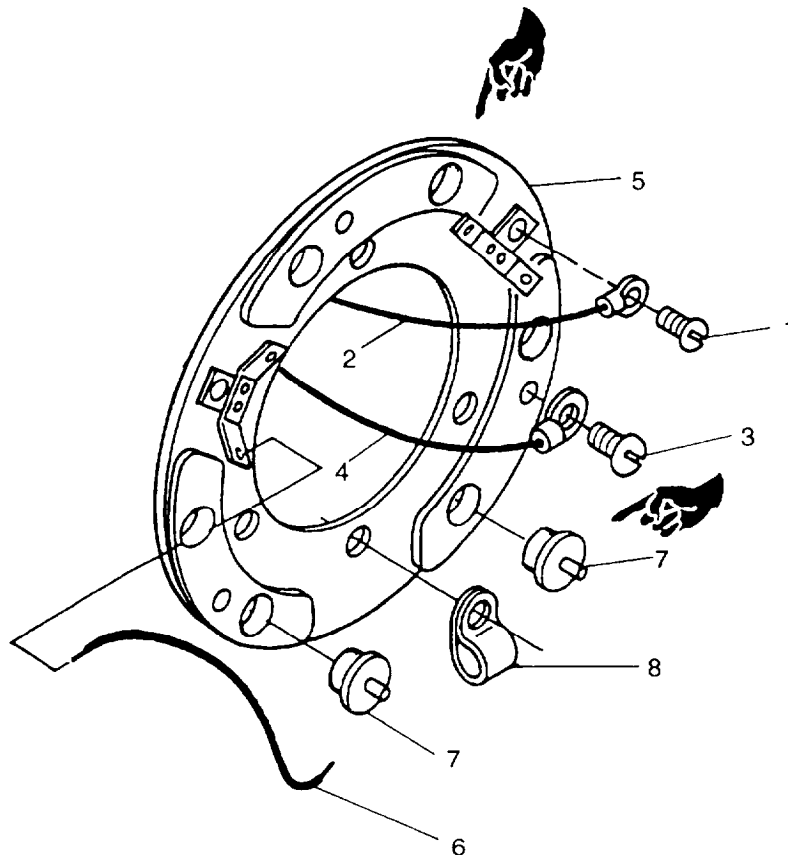
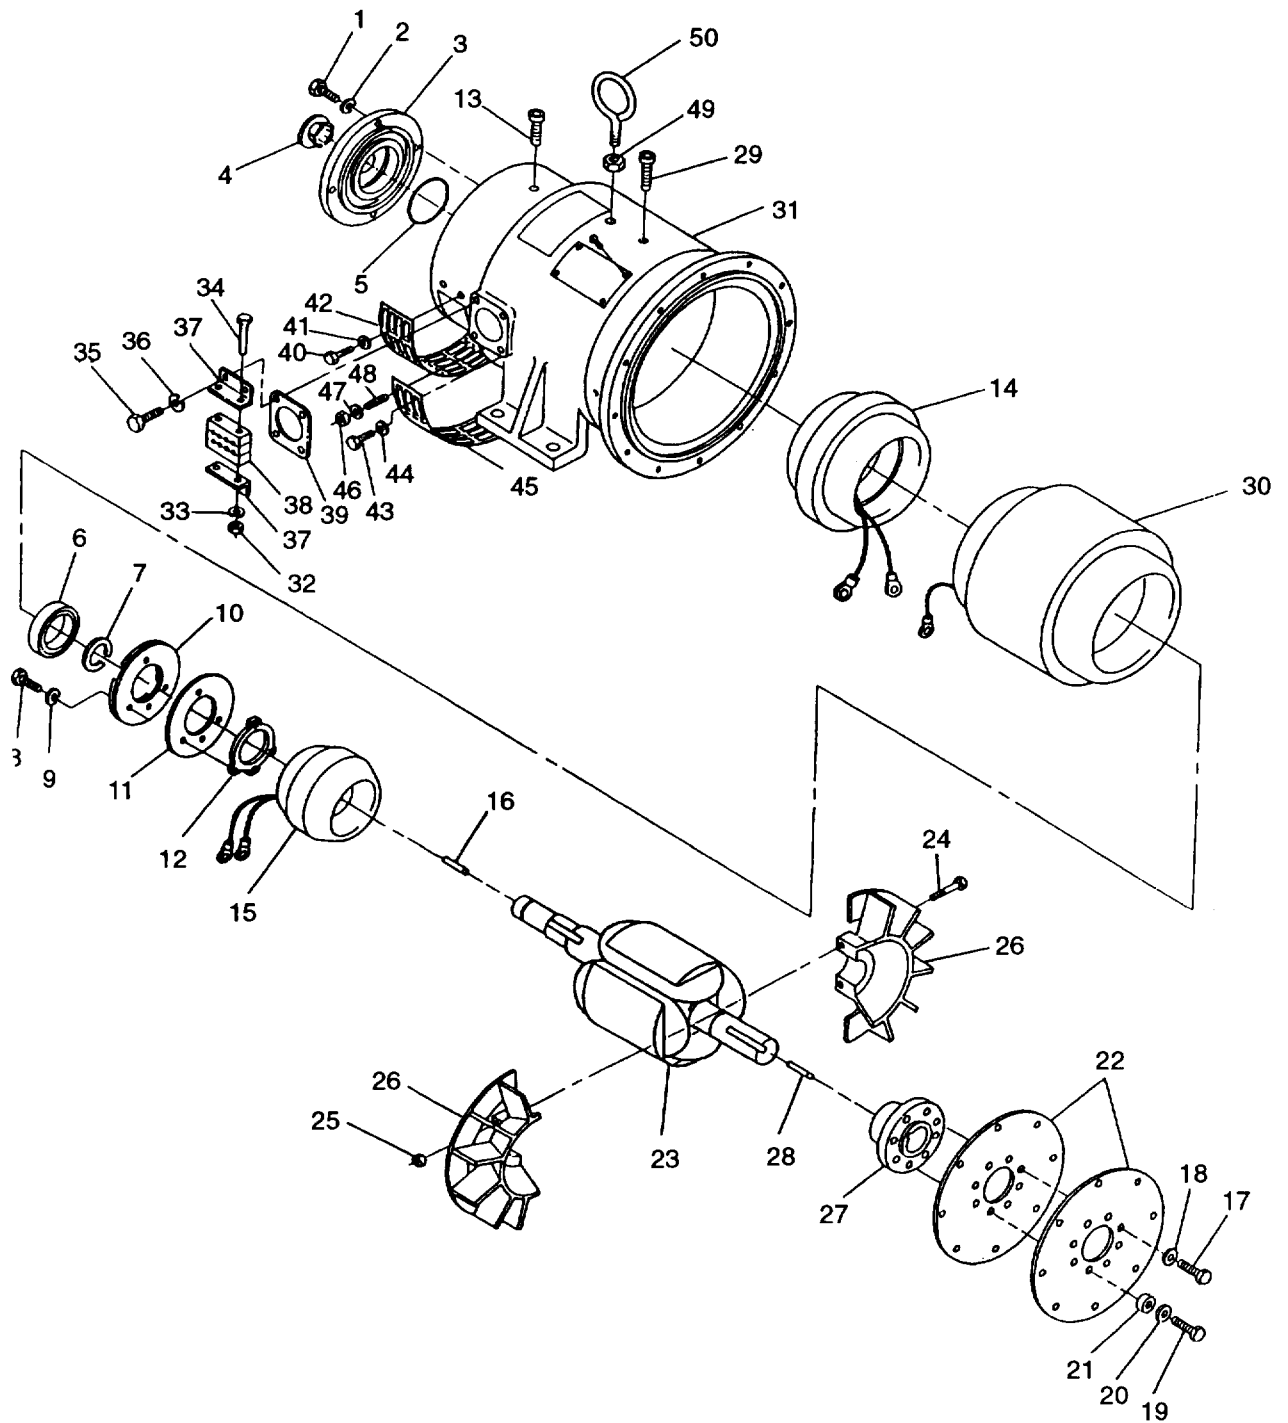

FIGURE 4-9. Rectifier Assembly (MEP-804A)
FIGURE 4-10. Generator Assembly (MEP-804A)
- e. Tag main rotor leads (2, FIGURE 4-9). Remove screws (1) and main rotor leads (2) from diode mounting plate assembly (5).
- f. Tag exciter rotor leads (4). Remove screws (3) and exciter rotor leads (4) from diode mounting plate assembly (5).
- g. Set multimeter for ohms and connect positive lead to one side and negative lead to other side of each diode (7). Record multimeter reading for each diode.
- j. Install exciter leads (4) and main rotor leads (2) to diode mounting plate assembly (5) with screws (1) and (3). Remove tags.
- f. Unsolder electrical lead (6, FIGURE 4-9) from diode (7) being removed.
- g. Press diode (7) from diode mounting plate assembly (5).
- a. Run bead of thermal-electric compound (Item 8, Appendix C) around base of diode (7, FIGURE 4-9) prior to installing.
- b. Press diode (7) into diode mounting plate assembly (5).
- c. Using solder (Item 17, Appendix C) and soldering iron, solder electrical lead (6) to diode (7).
- d. Remove bolts (1, FIGURE 4-10), lockwashers (2), and end bell (3) from generator assembly.
- e. If necessary, remove plug (4) and packing (5) from end bell (3).
- f. Using bearing puller, remove bearing (6) from main rotor assembly (23) shaft and discard bearing
- g. If necessary remove retaining ring (7) from main rotor assembly (23) shaft.
- a. If removed, install retaining ring (7, FIGURE 4-10) on main rotor assembly (23) shaft.
- e. Remove screws (3, FIGURE 4-9) securing exciter rotor leads (3 places) to rotating rectifier. Tag and remove exciter rotor leads.
- f. Remove screws (1), tag and remove main rotor leads (2) from rotating rectifier (2 places).
- g. Remove bolts (8, FIGURE 4-10), lockwashers (9), rotating rectifier (10), and insulating plate (11) from rectifier hub (12).
- h. If necessary, remove clamp (8, FIGURE 4-9) from diode mounting plate assembly (5).
- a. If removed, install clamp (8, FIGURE 4-9) on diode mounting plate assembly (5).
- b. Install rotating rectifier (10, FIGURE 4-10) and insulating plate (11) on rectifier hub (12) with bolts (8) and lockwashers (9).
- c. Connect two main rotor leads (2, FIGURE 4-9) to rotating rectifier with screws (1). Remove tags.
- d. Connect three exciter rotor leads (4) to rotating rectifier with screws (3). Remove tags.
- h. Remove setscrews(13, FIGURE 4-10) from generator housing (31).
- a. Stand generator housing (31, FIGURE 4-10) on end with end bell opening in a downward position.
- b. Position exciter stator (14) in generator housing (31). Ensure exciter stator wires are pointing upward and are in alignment with wiring port on side of generator housing (31).
- e. Tag and disconnect exciter rotor leads (3 places) from rotating rectifier by removing screws (3, FIGURE 4-9).
- j. Connect exciter rotor leads to rotating rectifier with screws (3, FIGURE 4-9) and remove tags.
- f. Using bearing puller, remove rectifier hub (12, FIGURE 4-10) from rotor assembly (23) shaft.
- g. Pull two main rotor leads out of holes in exciter rotor (15).
- h. Attach hub puller to two lead holes and remove exciter rotor (15) from rotor assembly (23) shaft.